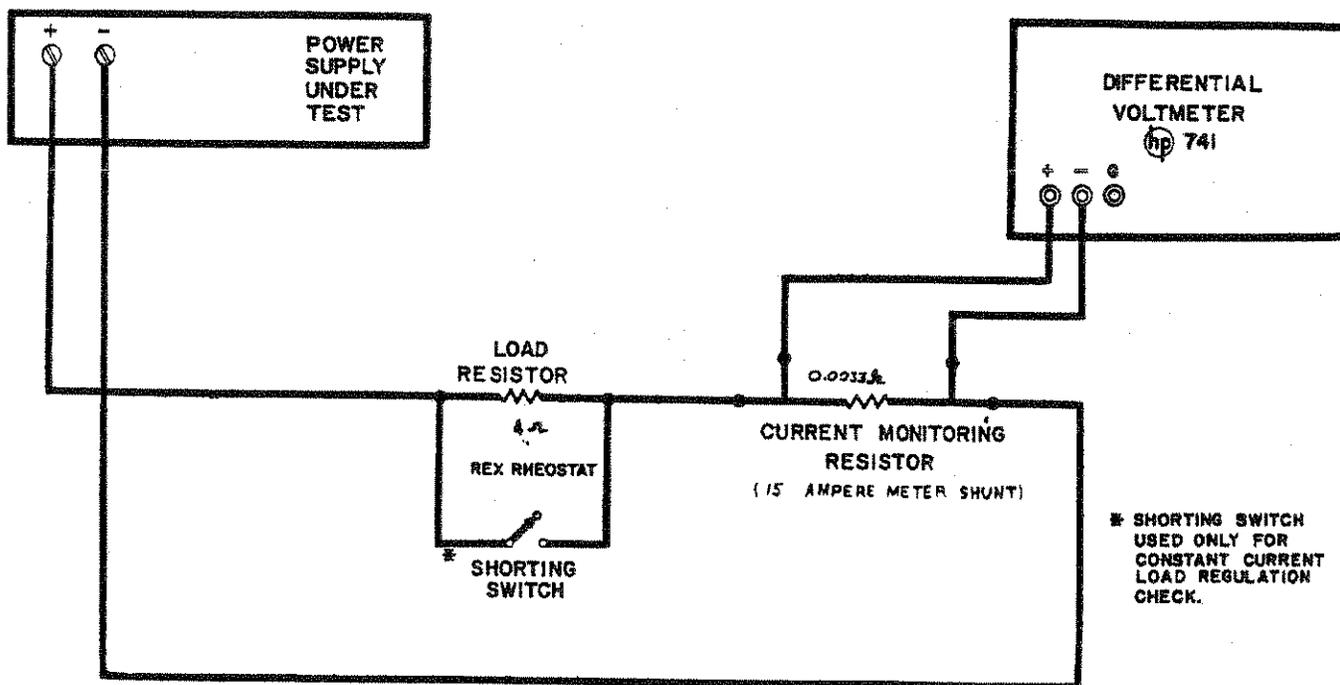

FIGURE 5-3. CONSTANT CURRENT TEST-SETUP
- a. Connect test setup shown in figure 5-3.
b. Connect test setup shown in figure 5-3.